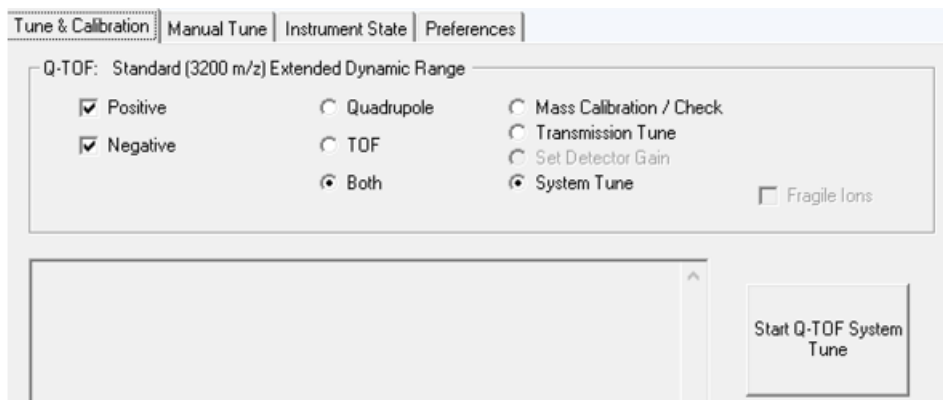

Figure 7. Tune & Calibration tab for 3200 *m/z* and Extended Dynamic Range
**Figure 7** appears if, in the Instrument State tab, you selected **Standard (3200 m/z)** as the Mass Range, and **Extended Dynamic Range (2 GHz)**.
- 3 In the **Tune & Calibration** tab, do a **System Tune** (both TOF and Quadrupole) at 3200 *m/z* (**Figure 7**).